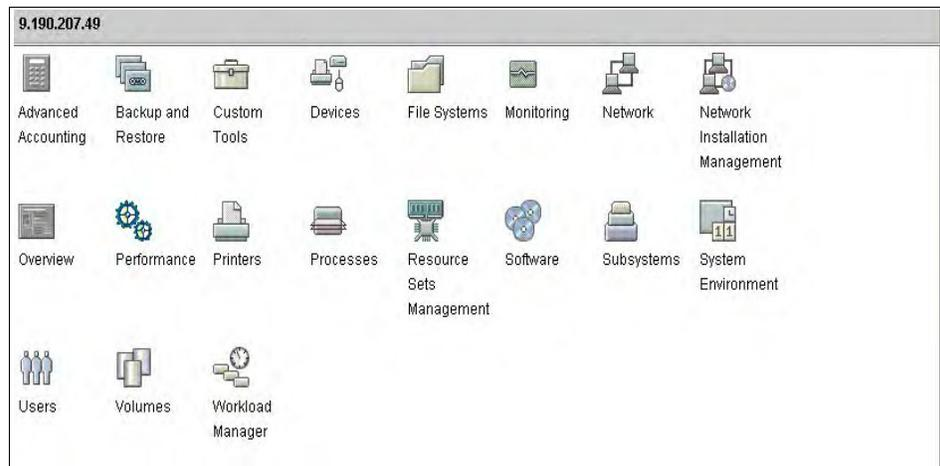

Figure 3-33 Web-Based System Management control panel
2. Start the Web-Based System Management application with the `wsm` command. You will see the screen shown in Figure 3-33.
In the navigation area (Figure 3-33), select the NIM container. If you are configuring your NIM master from scratch, you will see the screen shown in Figure 3-34.